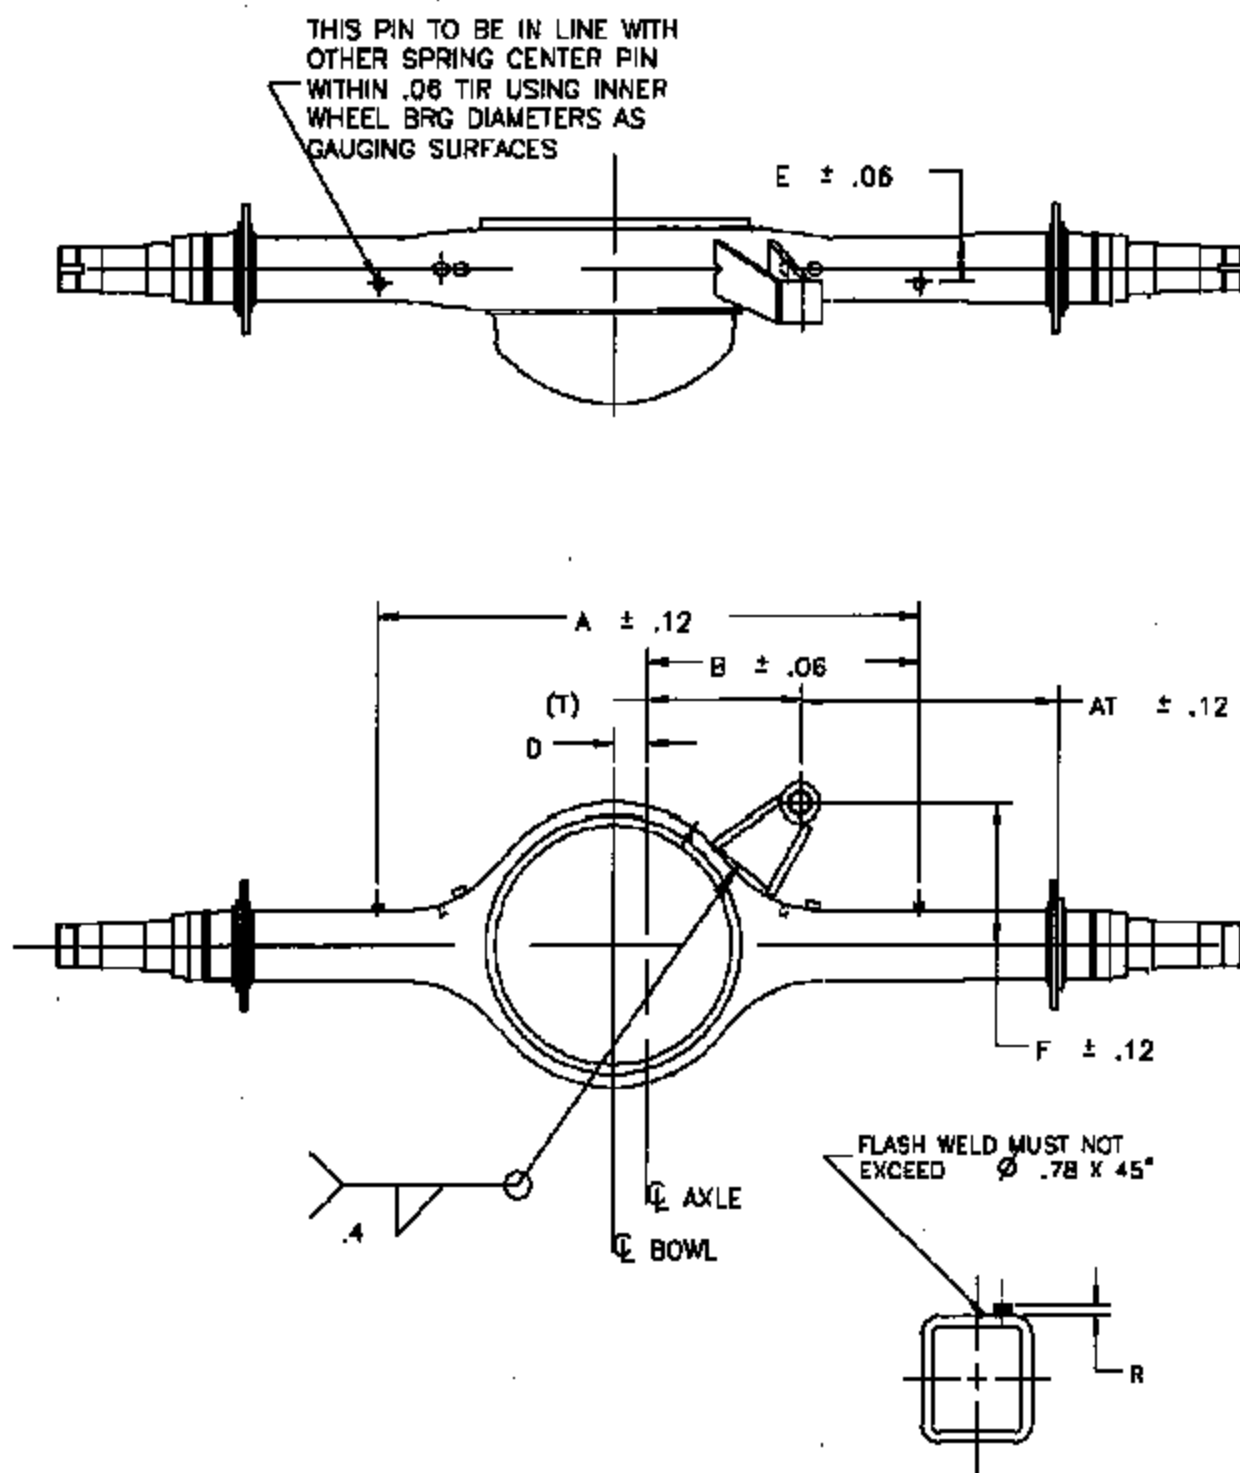

Figure 6
8. Center punch new pin location as per the dimensions indicated in Figure 6.
9. Drill a 7/16" diameter hole for the new spring pin. *You will not need to drill all the way through the axle housing. Please drill to a depth that will provide the dimension as indicated in Figure 6. Subtract the 'R' dimension from the overall height of the spring alignment pin.*
12. Grind torque rod bracket to fit axle housing as necessary. Refer to Figure 6 for proper location.